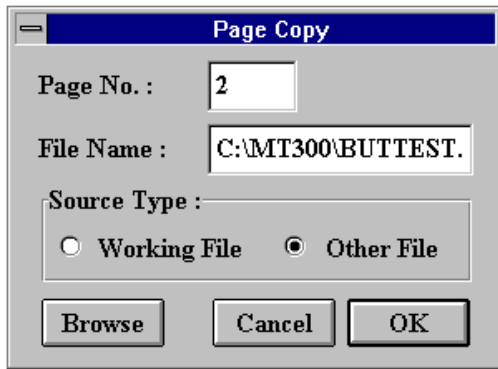

Figure 5-5: Page Copy Dialog
- 1) Choose the Copy function in the Tool menu or click on the Copy icon in the tool bar. The Page Copy dialog is popped up as in Fig. 5-5.